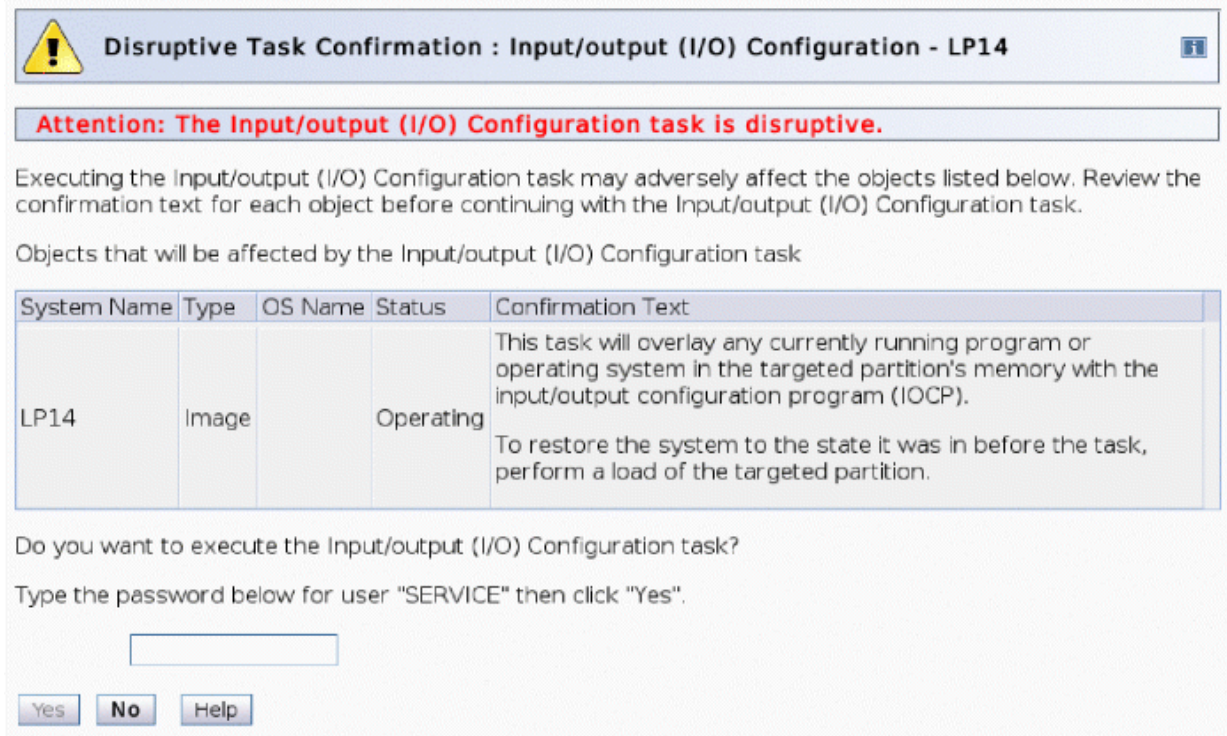

Figure 69. Disruptive Task Confirmation window
1. From the Input/Output Configuration window, click **Options** and then **Build Data Set**. The Disruptive Task Confirmation window is displayed for the first build only. Figure 69 on page 50 shows this window.